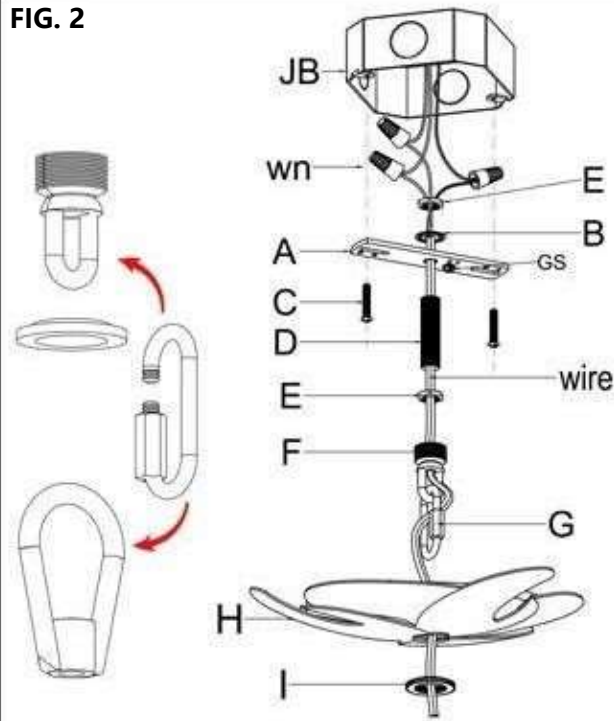

Fig. 3
CONNECTING THE WIRE (Fig. 3)
16. Connect the electrical wire as shown in Fig. 3, making sure that all the wire connectors are secured. If your junction box has a ground wire (green, or bare copper), connect fixture's ground wire to it. Otherwise connect fixture ground wire directly to crossbar (A) using green screw provided.
17. Tuck wire connections neatly into junction box (JB).
18. Raise canopy over collar loop (F) and secure with collar ring (I).